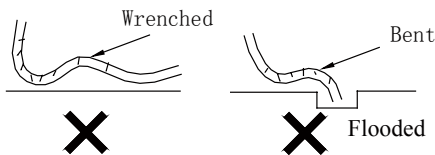

Fig.2
- B. Do not wrench or bend the drain hose or flood its end by water. (Fig.2)